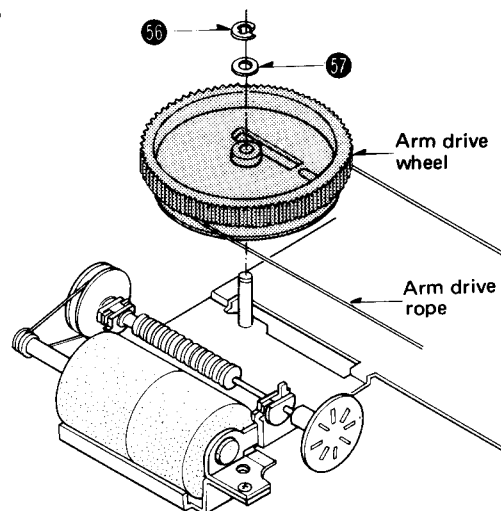

Fig. 14
- Remove the E-ring (56) and washer (57) to remove the arm drive wheel. (Fig. 14)